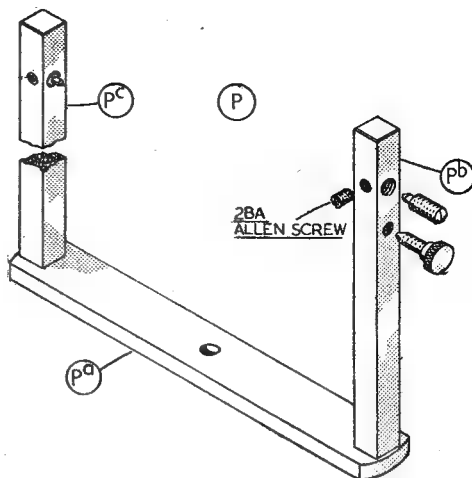
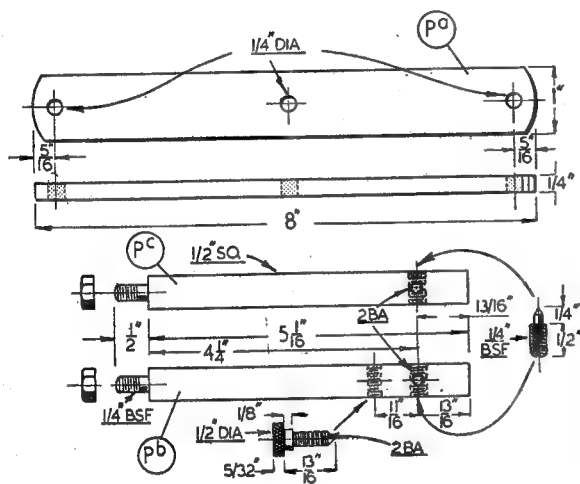

Fig. 30. The bellows fork
Fig. 31. Dimensions of the bellows fork components
THE construction of the bellows fork assembly (P), Fig. 4, is illustrated in Fig. 30, and the dimensions of the various parts are shown in Fig. 31. The purpose of this fork is to carry the wooden frame to which the two sections of the bellows are fastened in order to prevent sagging. In addition, the fork pivots on the upper V-block (M), and the wooden frame can